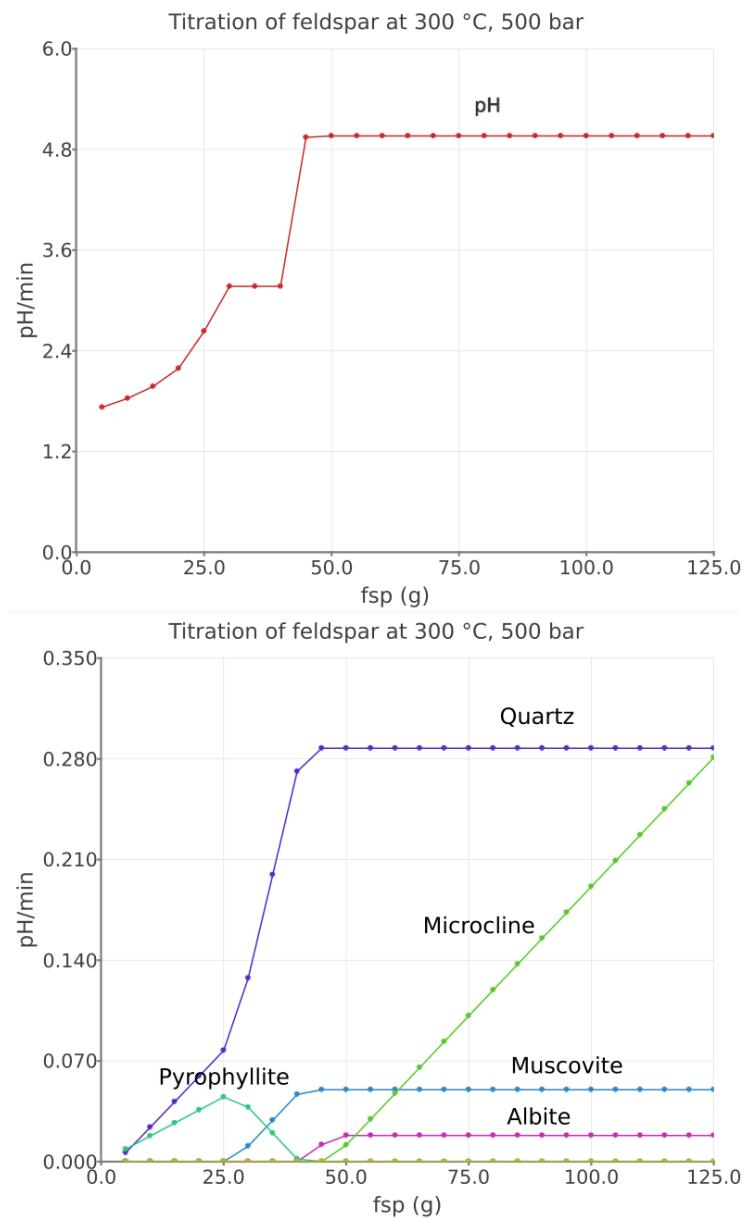

Figure 2.16: Simulated K-feldspar reaction path show pH and moles minerals in equilibrium with a saline aqueous fluid at 300 °C and 500 bar.
- Now select the process simulation you generated previously at 300 °C and 500 bar. In the **Controls** tab change the amount of K-feldspar to be added using 5 to 125 g in 5 g steps, re-calculate and save. Try to tweak your graph to look like Figure 2.16.
- The resulting reaction path at 300 °C is shown in Figure 2.16.